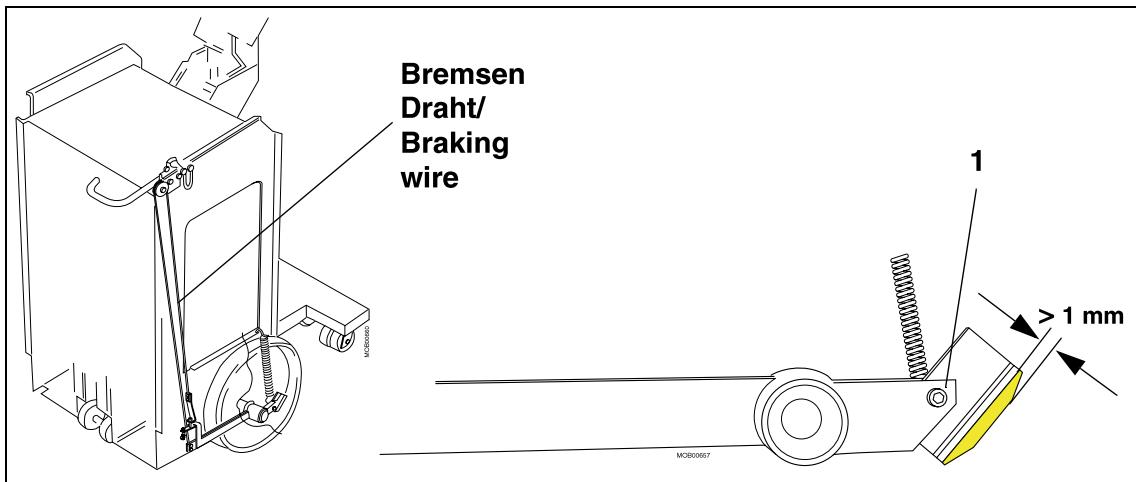

Fig. 59: Wheel brake
- Check the brake linings. If the brake linings are thinner than 1 mm, they must be replaced (Fig. 59 / p. 68).
- Loosen the screw to remove the old lining (Fig. 59 / p. 68).